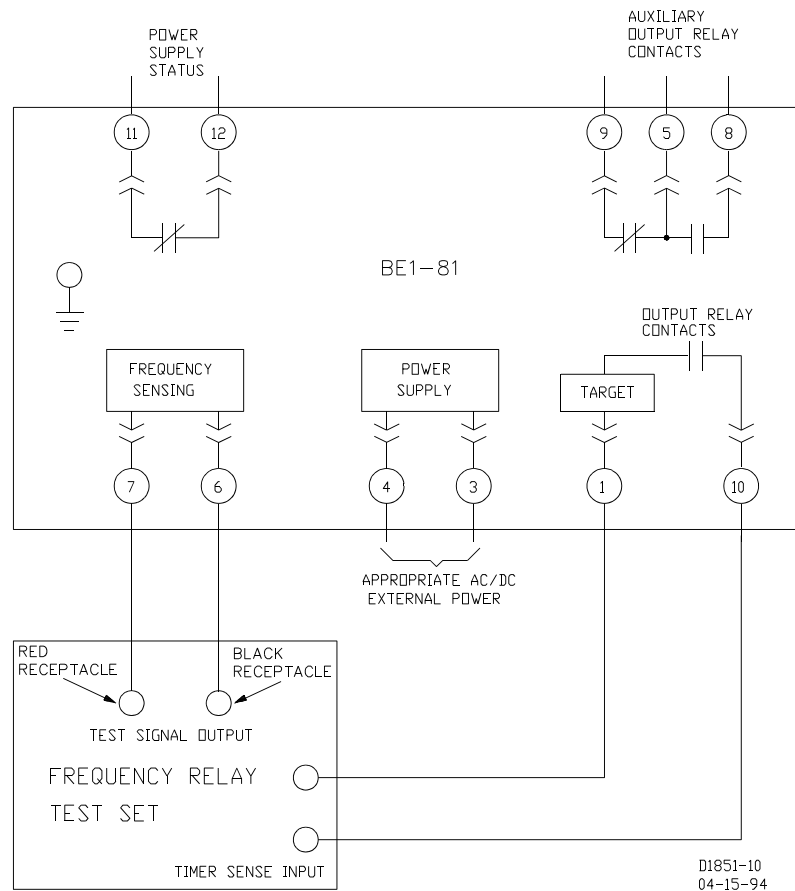

Figure 5-1. Test Setup
Figure 5-1 illustrates a test setup using a commercially available frequency test set having frequency and time generating accuracies exceeding those of the underfrequency relay.
- Step 1. Connect the relay as shown in Figure 5-1.